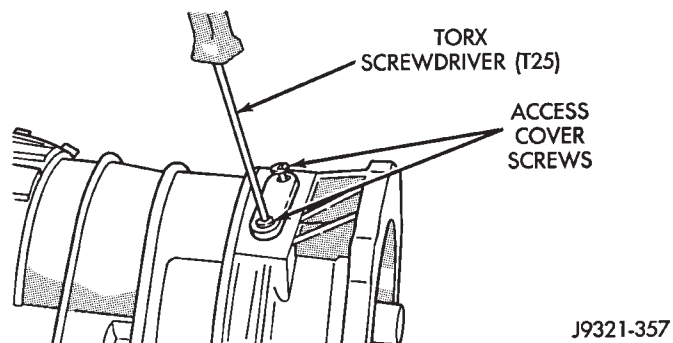

Fig. 13 Removing/Installing Access Cover Screws
(3) Remove Torx head screws that attach access cover and gasket to overdrive case (Fig. 13). A T25 size Torx head bit is required.